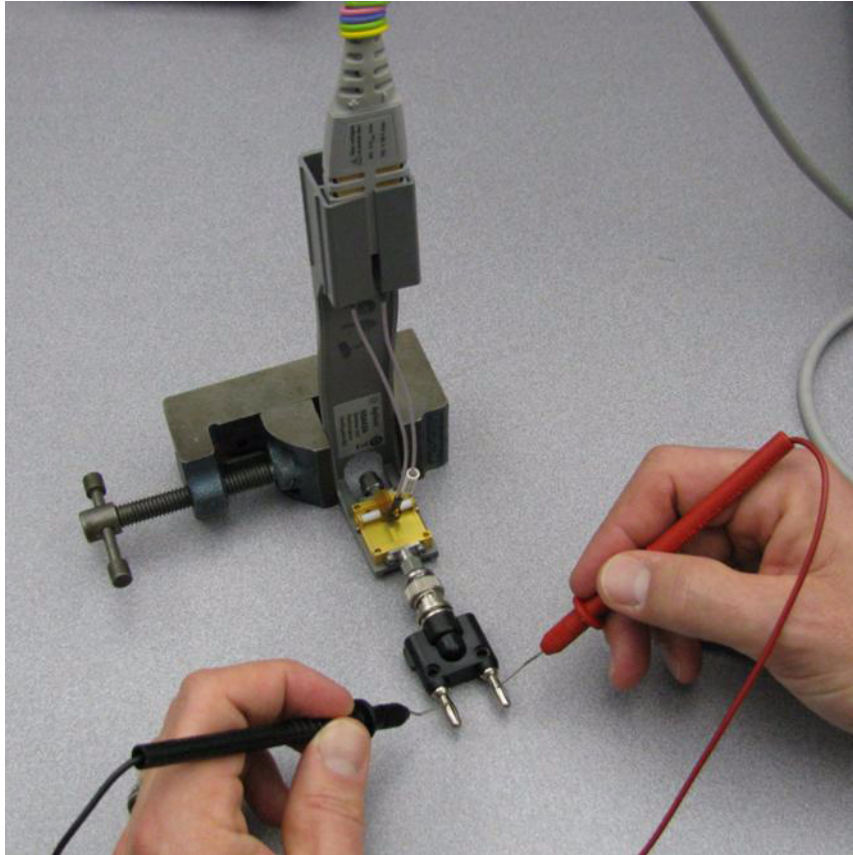

Figure 9 Measuring the differential input resistance of a ZIF or solder-in probe head
Figure 9 shows the correct setup for measuring the differential input resistance for ZIF probe heads or the solder-in probe head.
- 1 Connect the BNC to SMA adapter and BNC to Banana Plug adapters as shown in Figure 9.
- 4 Connect the ZIF or solder-in probe head to the probe amp and insert it into the PV fixture as shown Figure 9.
- 6 As shown in Figure 9, measure the DC input resistance between the banana plugs. Since one tip wire is connected to the signal line and the other tip is connected to the PV fixture ground, this is a measurement of the differential input resistance. It should be 100 kOhms +/- 2% (98 to 102 kOhms).